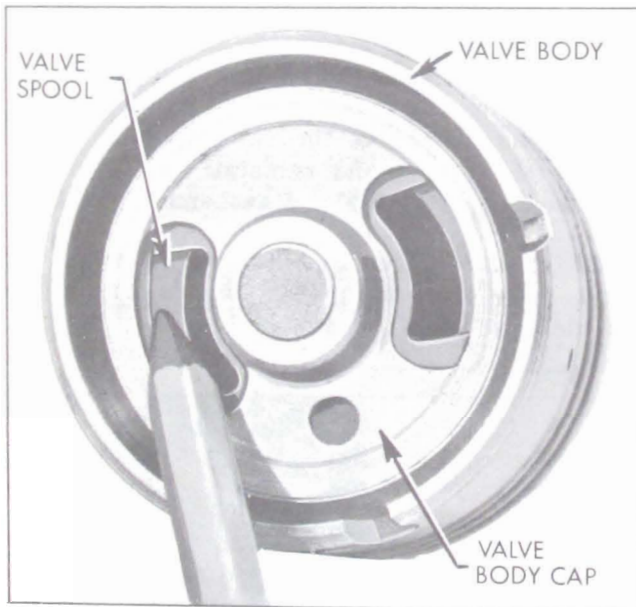
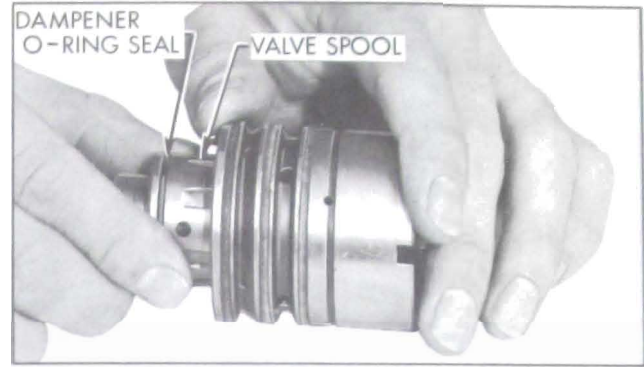

Figure 8-35—Separating Valve Spool From Valve Body
Figure 8-36—Withdrawing Valve Spool From Valve Body
3. Remove the valve spool by holding the valve assembly in one hand with the stub shaft pointing downward. Insert the end of a pencil or wood rod through the opening in the valve body cap and lightly push on the valve spool until it is far enough out of the valve body to be withdrawn. See Figure 8-35. Withdraw the spool with a steady rotating pull to prevent jamming. See Figure 8-36. If slight sticking occurs, make a gentle attempt to reverse the withdrawal procedure. If this does not free spool, it has become cocked in the valve body bore. Do not attempt to force the spool in or out if it becomes cocked, but continue with the following step.